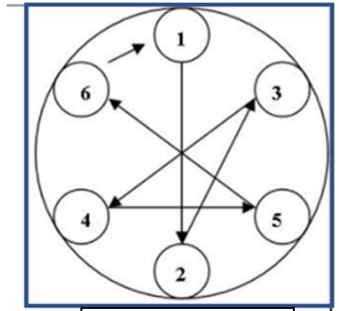

FIGURE 5-13
- i. Remove the cover. The six wing nuts should be loosened in a "Star" pattern in the sequence shown. See Figure 5-13